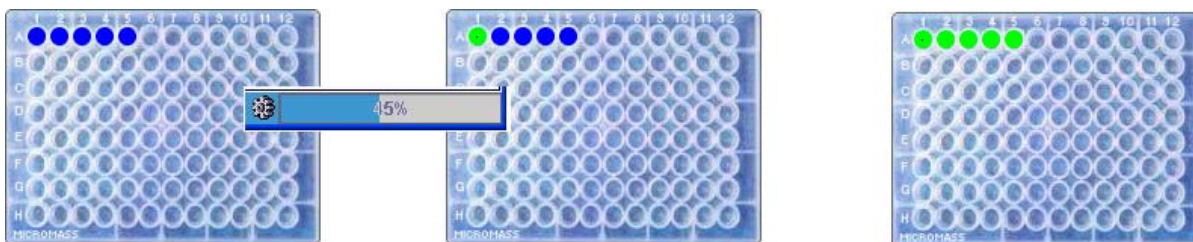

Figure 105 - Processed sample spots
39. Click **Process**. The sample spots turn blue (Figure 105) as the data is processed.
40. Once each data file has been processed successfully (and matches found), the spots turn green (Figure 105).